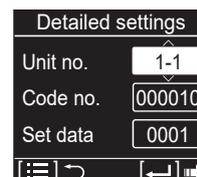

Fig. 4-12-2-4
- (4) Keep pressing the  button for 2 seconds or more during selecting “Code no.”. (Fig. 4-12-2-5)